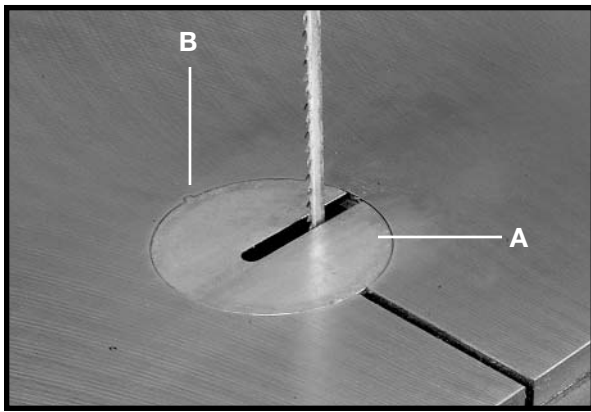

Fig.17
Place the table insert (A) Fig. 17 in the hole provided in the table. Engage the protrusion of the insert in the indent (B) in the table.